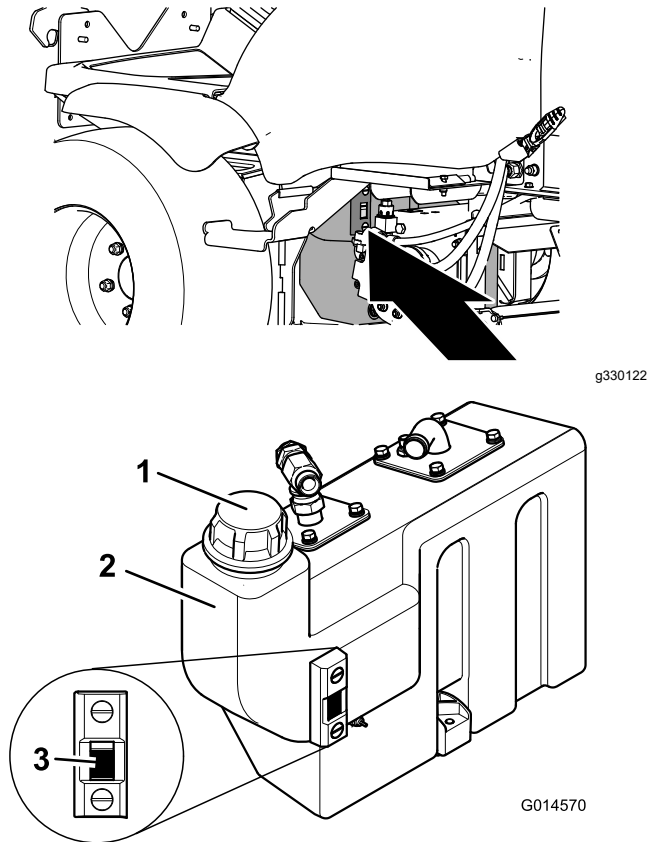

Figure 73
4. Clean the area around the filler neck and the cap of the hydraulic tank (Figure 73).